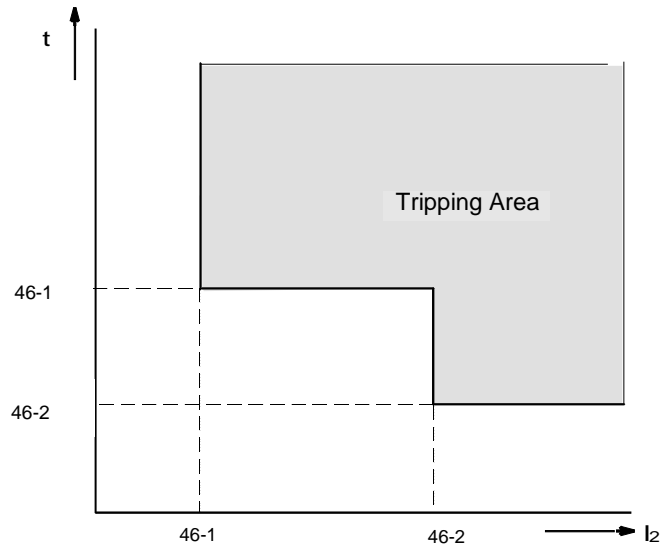
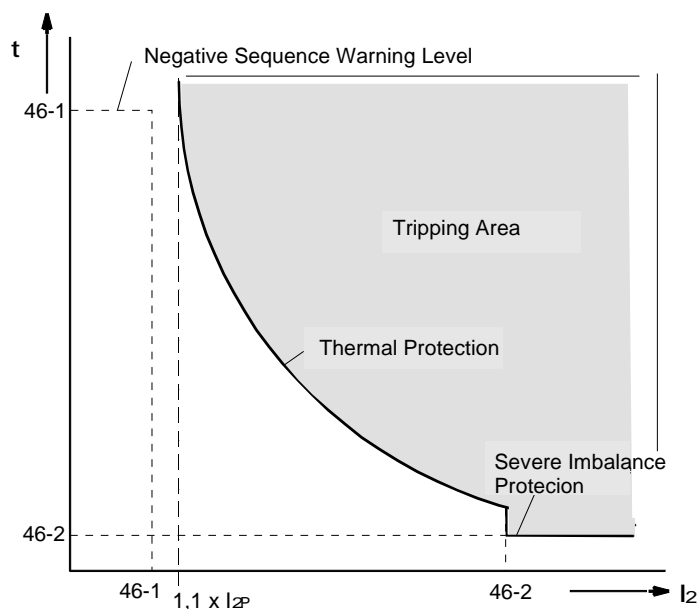

Figure 6-40 Definite Time Characteristic for Negative Sequence Protection
Figure 6-41 Inverse Time Characteristic for Negative Sequence Protection
The negative sequence protection feature of the 7SJ62 relay uses filtering to dissect the phase currents into their symmetrical components. If the negative sequence component of the phase currents is at least 10% of the nominal device current, and all phase currents are less than four (4) times the nominal device current, then the negative sequence current is fed into three time-overcurrent relay elements, two of which are definite time (see Figure 6-40) and one of which contains an inverse time characteristic (see Figure 6-41).
The two definite time elements are designated 46-2 and 46-1. Each of the two definite time elements will generate a message and initiate a time delay when picked up. Once either time delay elapses, a trip signal is initiated. Figure 6-40 illustrates the definite time characteristic when the 46-1 element is set with a more sensitive pickup value while the 46-2 element is set with a shorter tripping delay.
When the negative sequence current exceeds the pickup setting of the 46-TOC element by 110%, the element picks up, generates a message, and initiates time delayed tripping based on the selected characteristic curve. Once the corresponding time interval on the curve elapses, a tripping signal is initiated. The characteristic curve is illustrated in Figure 6-41.
If disk emulation is selected, the drop out begins when the current decreases to 90 % of the pickup value, and reset proceeds in accordance with the selected reset curve. When the negative sequence current is between 90 % and 95 % of the pickup setting, neither forward nor reverse movement of the disk is simulated. When the negative sequence current falls below 5 % of the pickup value, disk emulation is terminated and immediate reset takes place. Figure 6-41 illustrates the overall tripping characteristic.